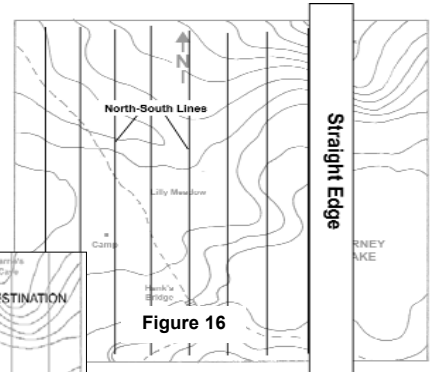

Figure 16
2. Draw true north-south lines on a map, spaced approximately 1 inch apart. (Fig 16)